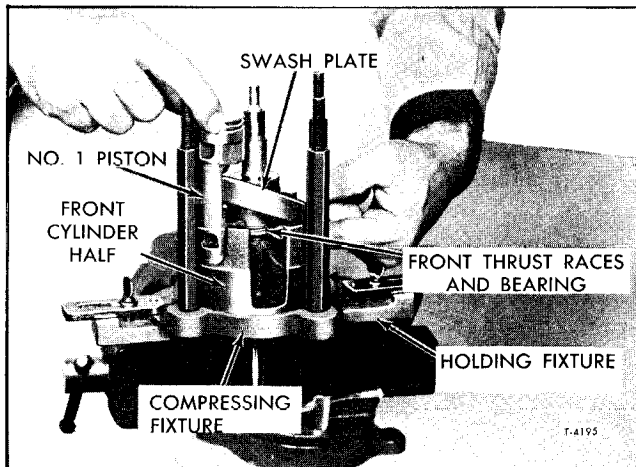

Figure 54—Installing Piston Front Ball and Seat and Rear Ball
8. Rotate the shaft and wobble plate until the high point of the wobble plate is directly over the cylinder bore previously designated as No. 1. Lift up slightly on the shaft and wobble plate assembly, insert the front (notched) end of the No. 1 piston into the cylinder bore, and at the same time, place the front ball and seat and the rear ball only over the wobble plate (figure 54). Hold front thrust bearing pack tight against wobble plate hub while lifting shaft.